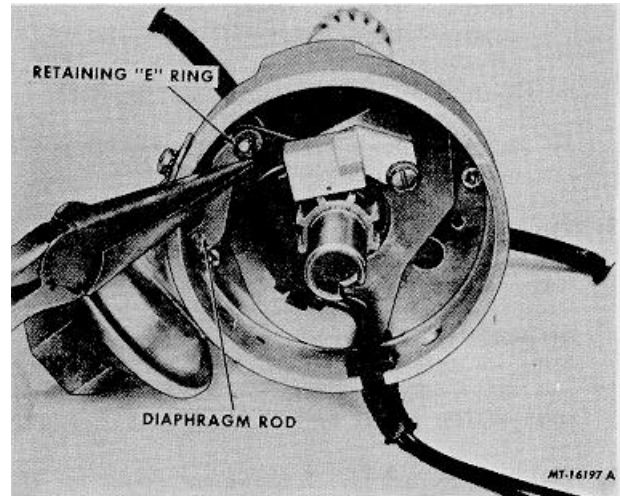

Fig. 15 Removing Diaphragm Rod Retainer
2. Remove vacuum advance diaphragm rod retaining "E" ring (Fig. 15).